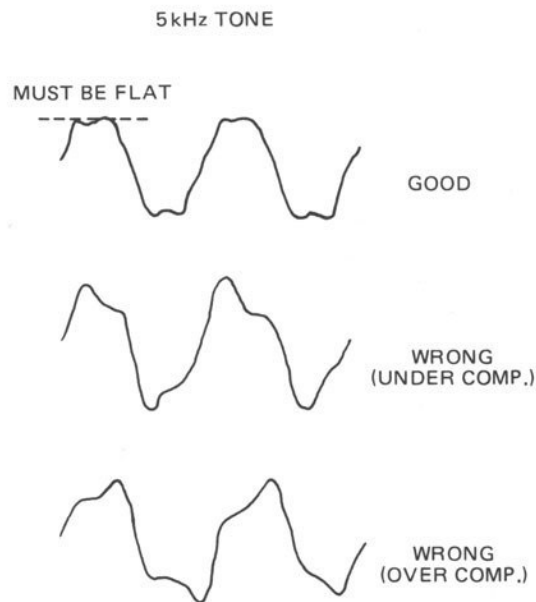

Figure 4-18 Record Phase Compensation Waveform
- (5) While recording the square wave, adjust the RECORD PHASE HI SPD trimmer for the best square wave response shown on the oscilloscope. (Refer to Figure 4-18).
- (6) Repeat for all remaining channels.
- (7) Set the SPEED SELECT switch on the transport to the L position and repeat Steps 3 through 6 using the RECORD PHASE LOW SPD trimmers. NOTE: Use 5 kHz for 7-1/2 ips adjustment.